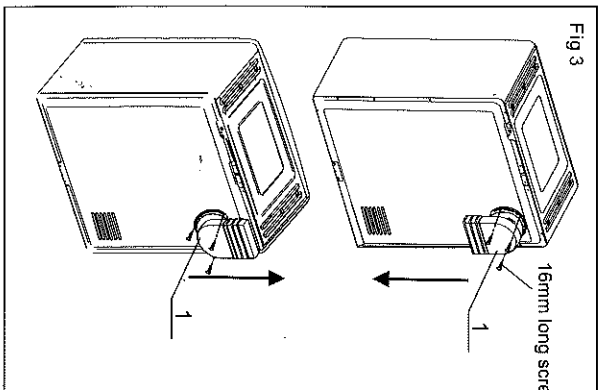

Fig 3
5. Install exhaust pipe. Adjust the direction of the exhaust outlet (1) as shown in Fig. 3.